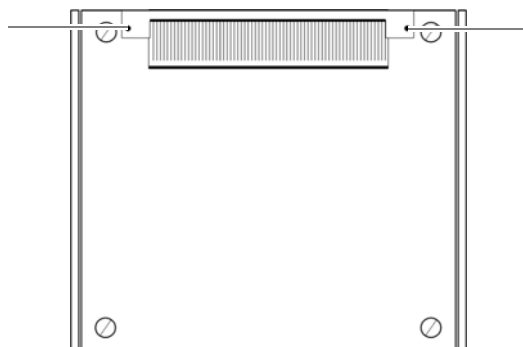

Figure 5.2 Top equipment rack cover – grommet mounting screws
1. Loosen the mounting screws of the grommet using a size 2 cross-head screwdriver, refer to Figure 5.2.